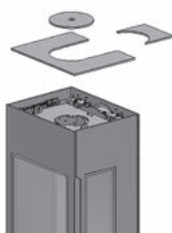

Fig. 5a
1. To do this, remove the top cladding parts from the top plate. (Fig. 5a).